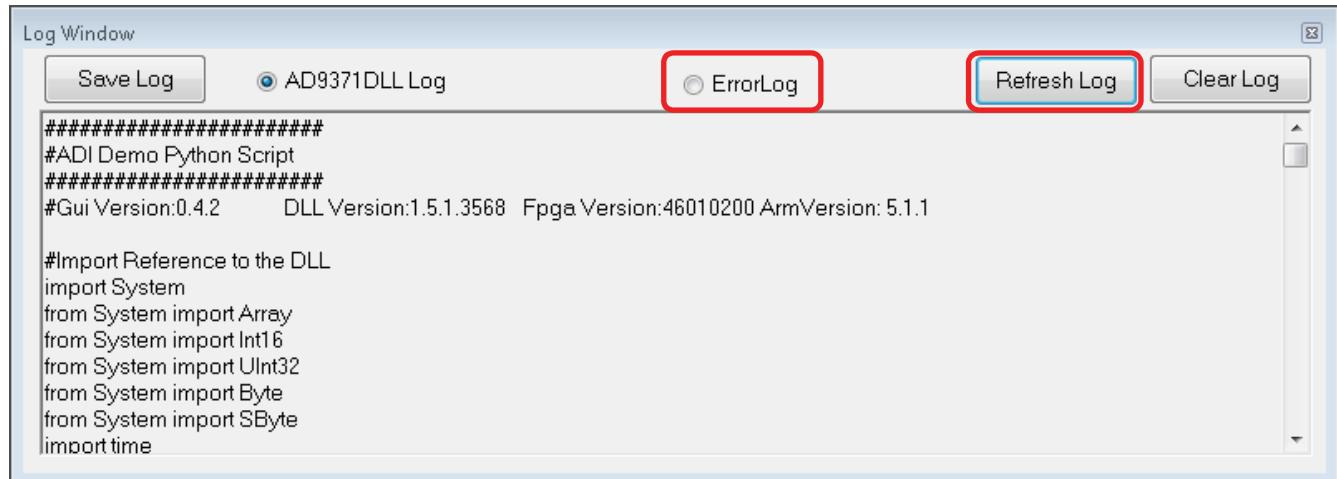

Figure 50. AD9375 SCES Log Window
- View Log Files** monitors API activities. This command opens the window shown in Figure 50. In this window, the user can select from the following options: